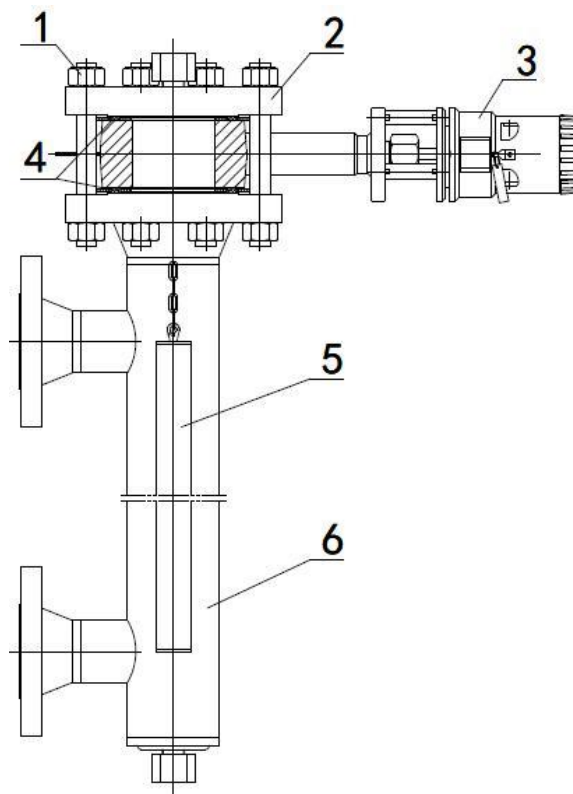
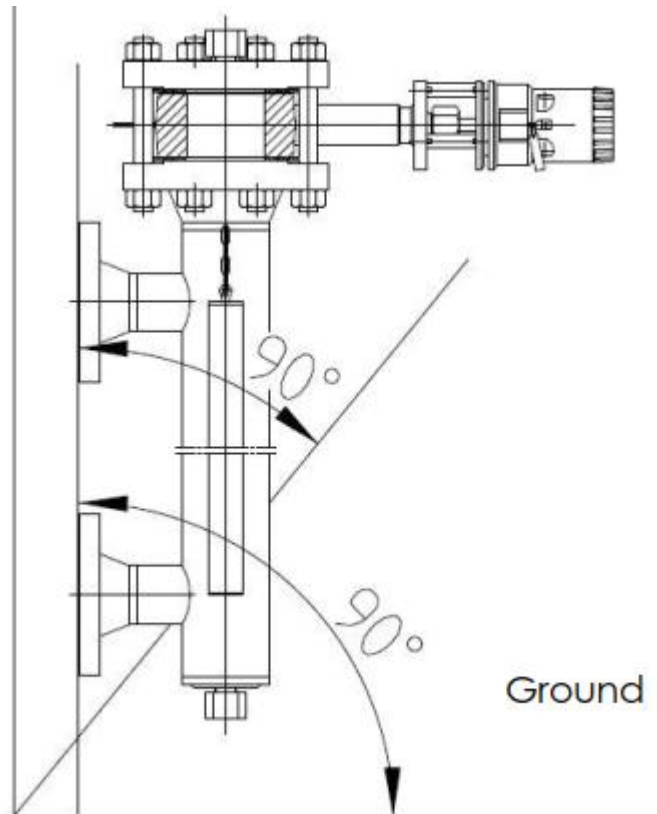

Figure 1 Product Structure
Figure 5
### 2.1 Main Structure of Product-Figure 1
6.2.1 When installing the measuring chamber, the axis of the outer cylinder side flange must be perpendicular to the horizontal plane (Figure 5). If the ZTD transmitter and the remaining parts are packaged separately, install the parts according to the position shown in Figure 1. If it has been installed as a whole, follow 6.2.3-5.